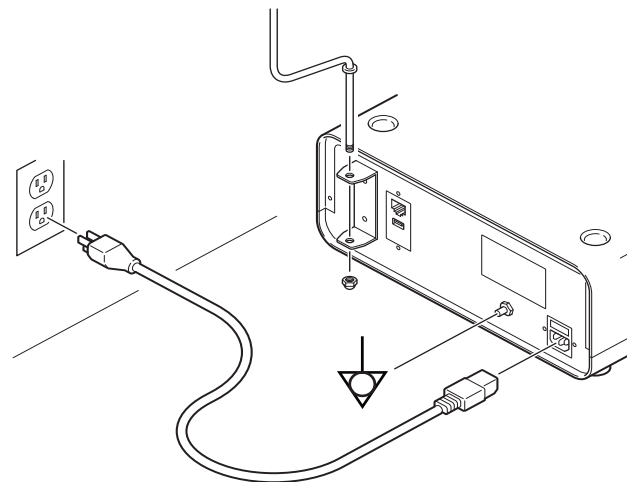

Figure 5 – Console (Rear View)
3. Verify the following items are connected; connect as necessary (Figure 5):
- 7.1. If required, install an irrigation pole into the pole bracket on the rear of the console (Figure 5).